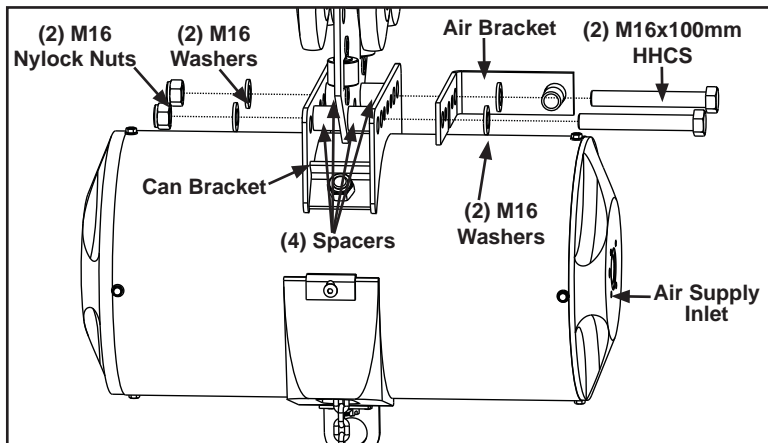
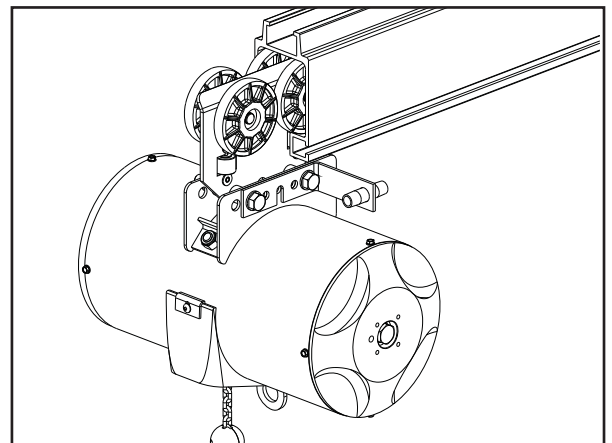

Figure 3-79
Figure 3-80
Step 1. Slide two (2) M16 x 100 mm HHCS with M16 washers through the air bracket and on one side of can bracket. See Figure 3-79.
Step 2. Sandwich trolley with spacers inside balancer bracket by sliding one (1) 5/8 in (16 mm) x 1 in (25 mm) spacer on each bolt and slide bolts through mounting holes on trolley. See Figure 3-79.
Step 3. Install two (2) remaining spacers, one (1) per bolt, between trolley and second plate on can bracket.
Step 4. Install two (2) M16 x 2.0 nylock nuts and M16 flat washers onto mounting bolts.
Step 9. Roll trolley into rail. See Figure 3-80.